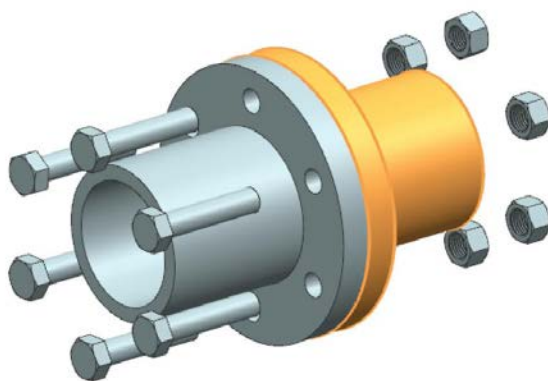

Figure 9-43 The Flange selected from the assembly for explosion
9. Select the back Flange from the assembly, refer to Figure 9-43. Next, choose the **OK** button from the dialog box; the **Class Selection** dialog box is closed and the **Auto-explode Components** dialog box is displayed.